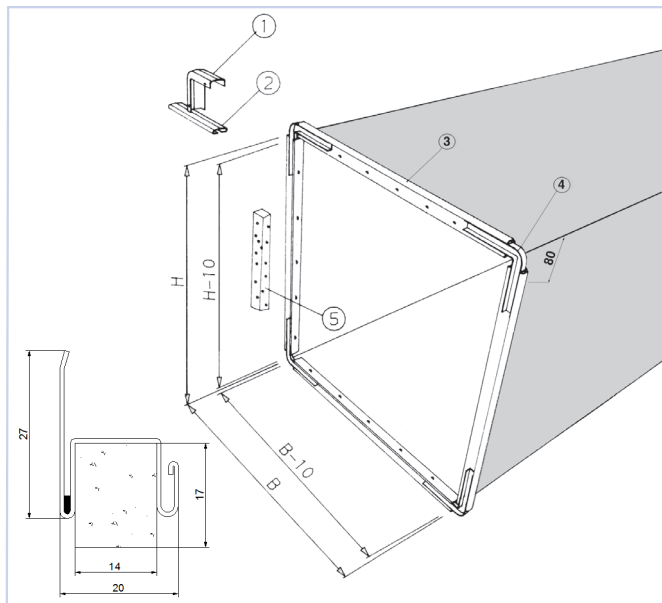
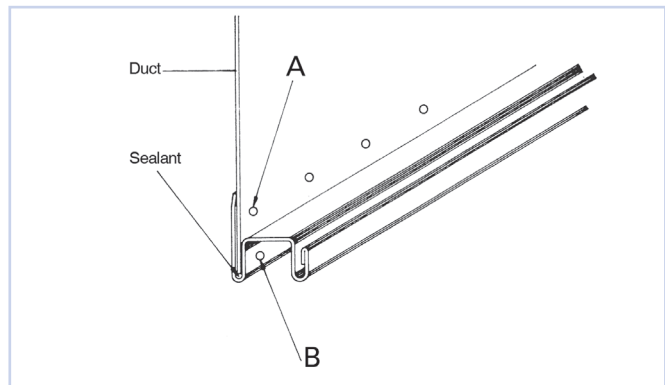

Figure 1
Figure 2 Assembly
As specified in fig. 1
KSA and SSA profiles are delivered in 3m lengths, 50m and 100m per bundle respectively, and are cut to size using saw, cut-off wheel or similar. A manual (KPH) or pneumatic (KPL) hand-press can also be used to cut the KSA connector in lengths =  $B/H \div 10\text{mm}$ . Please see fig. 1. The KSA connector is pressed onto the duct end until it is fully attached, and can be secured as follows: fig. bolted, screwed or spot welded as shown in fig. 2 (A), or secured with compressing pliers as shown in fig. 2 (B).
The KPA gasket is attached to the profile as shown in fig. 1, and the duct units can then be connected using the SSA track profile. When the sections have been joined, the YH-1 outer bend is fitted.